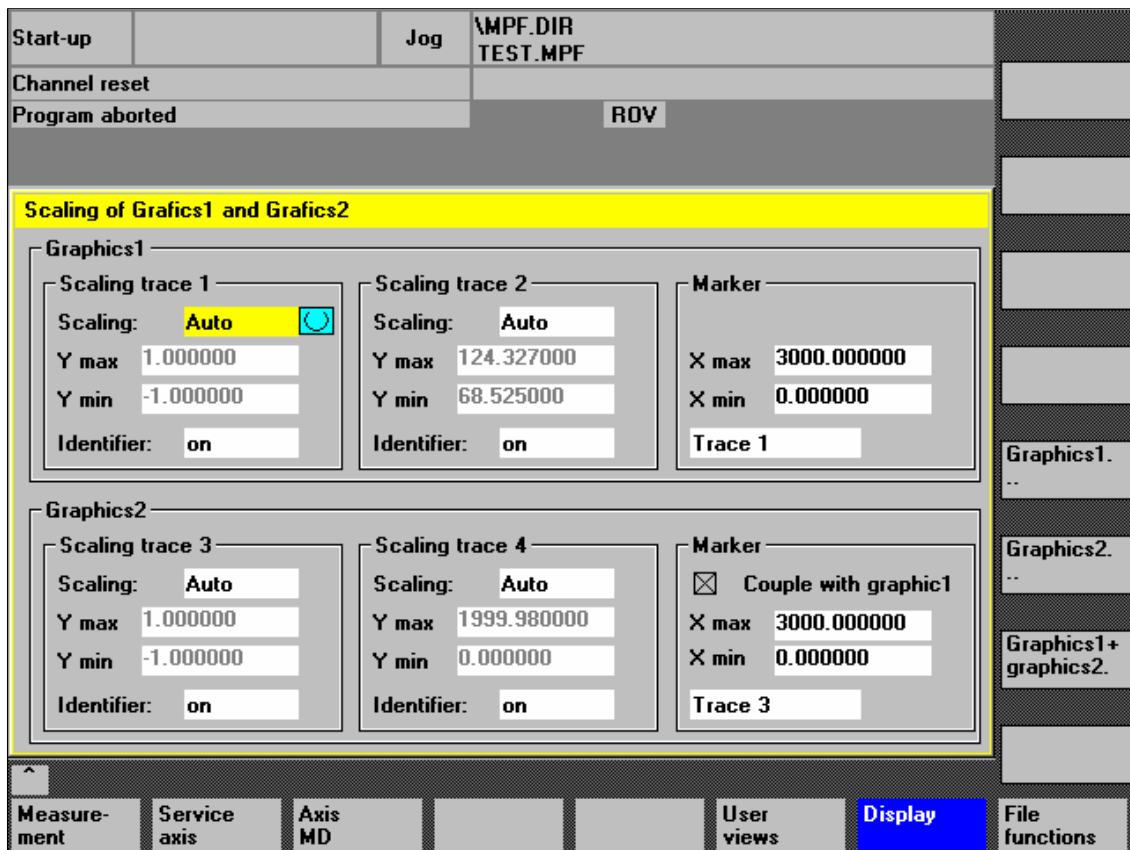

Fig. 13-12 Menu: Scaling of graphics
- Switching over the display from double to single graphics and vice versa (this function also exists in the scaling menu Fig. 13-12, Page 13-394)